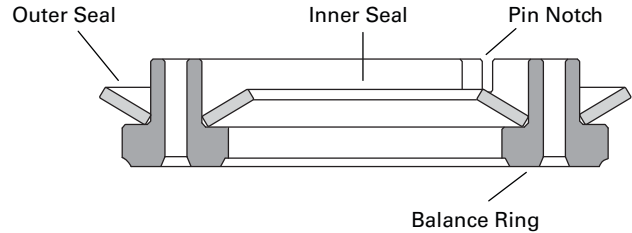

Figure 15.
37. Apply petroleum jelly to inner and outer face seals. Install seals on balance ring as shown in Figure 15.
Important: Install face seals in the positions shown in Figure 15, or the motor will not operate properly. Do not force or bend the face seals. Any damage to these seals will affect the operation of the motor.